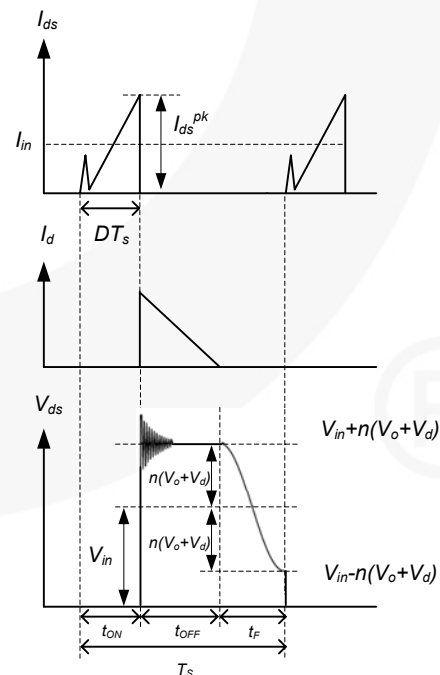

Figure 4. Typical Waveform of QR Operation
Figure 4 shows the typical waveforms of MOSFET drain current ( $I_{ds}$ ), secondary diode current ( $I_d$ ), and the MOSFET drain voltage ( $V_{ds}$ ) of a QR converter. During  $t_{OFF}$ , the current flows through the secondary side rectifier diode. When  $I_d$  reduces to zero,  $V_{ds}$  begins to drop by the resonance between the effective output capacitor of the MOSFET and the primary-side inductance ( $L_p$ ). To minimize the switching loss, the FAN6300/A/H is
- **The falling time of the MOSFET drain voltage ( $t_f$ ):** As shown in Figure 4, the falling time of MOSFET drain voltage is half of the resonant period of the MOSFET effective output capacitance and primary-side inductance. If a resonant capacitor is added to be paralleled with  $C_{oss}$ ,  $t_f$  can be increased and EMI can be reduced. However, this forces a switching loss increase. The typical value of  $t_f$  for NB adaptor application is about 0.5~1 $\mu$ s.
$R_{DET}$  determines the extended valley switching capability. A typical value for  $R_{DET}$  is 150k-220k $\Omega$ . A smaller value for  $R_{DET}$  enhances the extended valley switching capability, thus further extended valley voltage can be switched. In different applications, the falling time of the MOSFET drain voltage ( $t_f$  in Figure 4) may cause the valley switching voltage to be imprecise. Adjust the  $R_{DET}$  value or add a capacitor  $C_A$  connected from DET pin to GND may be helpful to the valley switching voltage. The recommended value for  $C_A$  is below 22pF.